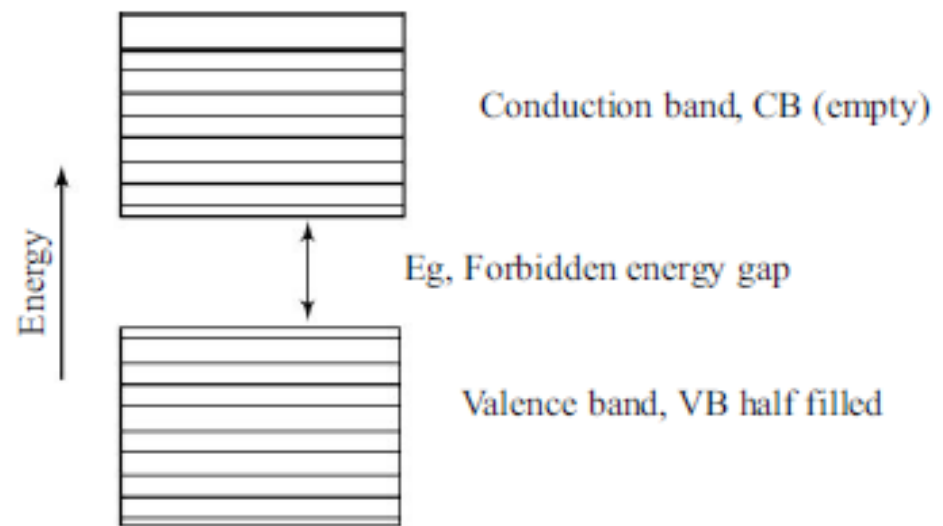

FIGURE 11.6 Energy levels of solids indicating empty conduction band.
A band of stabilized lower energy levels occupied by the valence electrons of the solid is called the 'Valence band', (VB) and obviously it is the highest filled state of a band. As shown in Fig. 11.6.
- (ii) The valence shells of Na ($1s^2 2s^2 2p^6 3s^1$), Al ($1s^2 2s^2 2p^6 3s^2 3p^1$) and Cu ($1s^2 2d^{10} 4s^1$) are partially filled and therefore, the valence band (VB) of these solids are partially filled with electrons.
A band of energy levels above the valence band in solids is called 'conduction band', (CB). The conduction band is, generally empty at absolute 0 K for solids (Fig. 11.6).
An energy gap exists between the VB and CB in solids of particular types. This energy gap E_g (eV) is called the 'forbidden energy gap' as shown in Fig. 11.6.